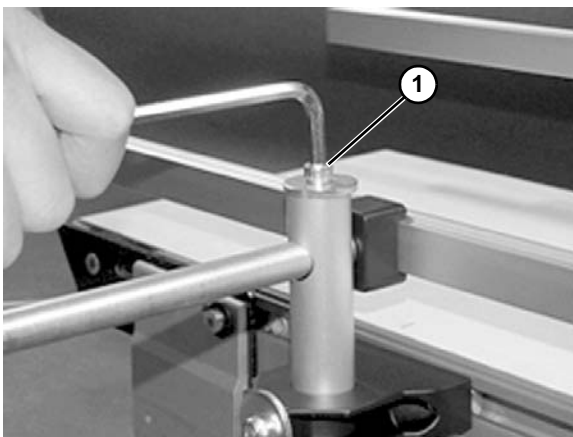

Figure 73
6. Adjust rail width with top screw (**Figure 73, item 1**).